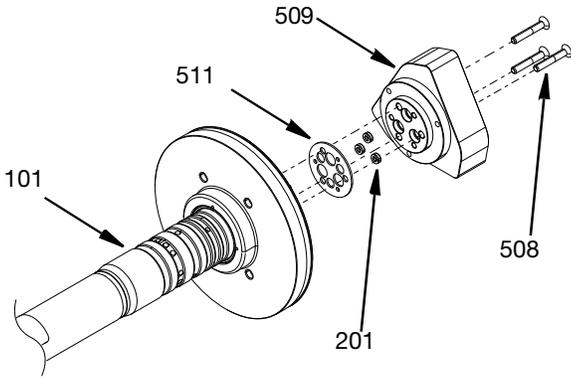

FIG. 30
10. Mount the three remaining rod seals (201) into the air cylinder housing (509), See **Seal Insert and Removal Tool Instructions** page No. 36 for installing rod seals. Fit a new gasket (511) and use three M4 screws (508) to secure the air cylinder housing to the central body (101). Apply threadlocker to the M4 screws and torque to 29.2 in-lbs (3.3 N•m). See FIG. 30.